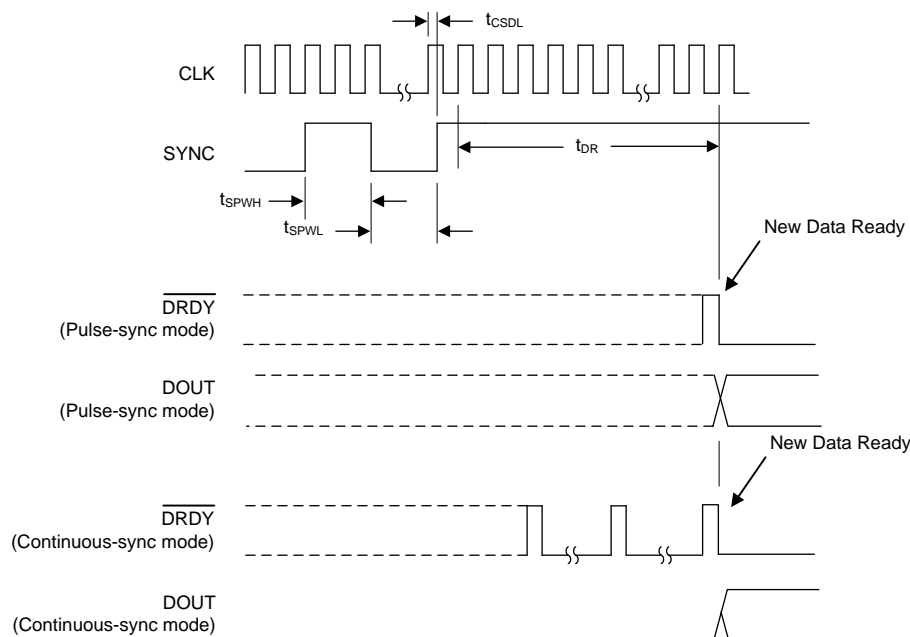
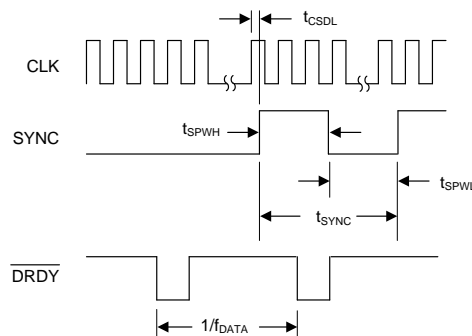

Figure 45. Pulse-Sync and Continuous-Sync Timing With Single Synchronization
Figure 46. Continuous-Sync Timing With SYNC Clock
In pulse-sync mode, when a synchronization occurs (by pin or command), the ADS1283 unconditionally stops and restarts the conversion process. When the ADC synchronizes, the device resets the internal filter memory, DRDY goes high, and after the digital filter has settled, new conversion data are available as shown in Figure 45 and Table 12.
Table 12. Pulse-Sync Timing for Figure 45 and Figure 46
(1) CLK rising edge to SYNC rising edge timing must not occur within the specified time window.
(2) Continuous-sync mode; a free-running clock applied to the SYNC input without causing resynchronization. See Figure 46
Observe the timing restriction of SYNC rising edge to CLK rising edge as shown in Figure 45 and Table 12. Synchronization occurs on the next rising CLK edge after the rising edge of the SYNC, or after the eighth rising SCLK edge when synchronized by command. To synchronize multiple ADCs, broadcast the command to the ADCs simultaneously.
In continuous-sync mode, either a single synchronization pulse or a continuous clock may be applied. When a single synchronization pulse is applied (rising edge), the device resynchronizes as it does in pulse-sync mode. ADC resynchronization occurs only under the condition that the time from the previous rising edge of SYNC is not a multiple of the conversion period. When resynchronization occurs in continuous-sync mode, \overline{DRDY} continues to toggle unaffected, and the DOUT output is held low until data are ready (63 \overline{DRDY} periods later). At the 63rd reading, conversion data are valid (when the conversion data are non-zero), as shown in Figure 45.
If a SYNC clock is applied to the ADC, the device resynchronizes only under the condition $t_{SYNC} \neq N / f_{DATA}$, where $N = 1, 2, 3$, and so on. \overline{DRDY} continues to output, but DOUT is held low until the new data are ready. If a SYNC clock is applied and the clock period matches an integral multiple of the output data rate, the device freely runs without resynchronization. Note that the phase of the applied clock and output data rate (\overline{DRDY}) are not aligned because of the initial delay of \overline{DRDY} after the SYNC clock is first applied. Figure 46 shows the timing for continuous-sync mode.